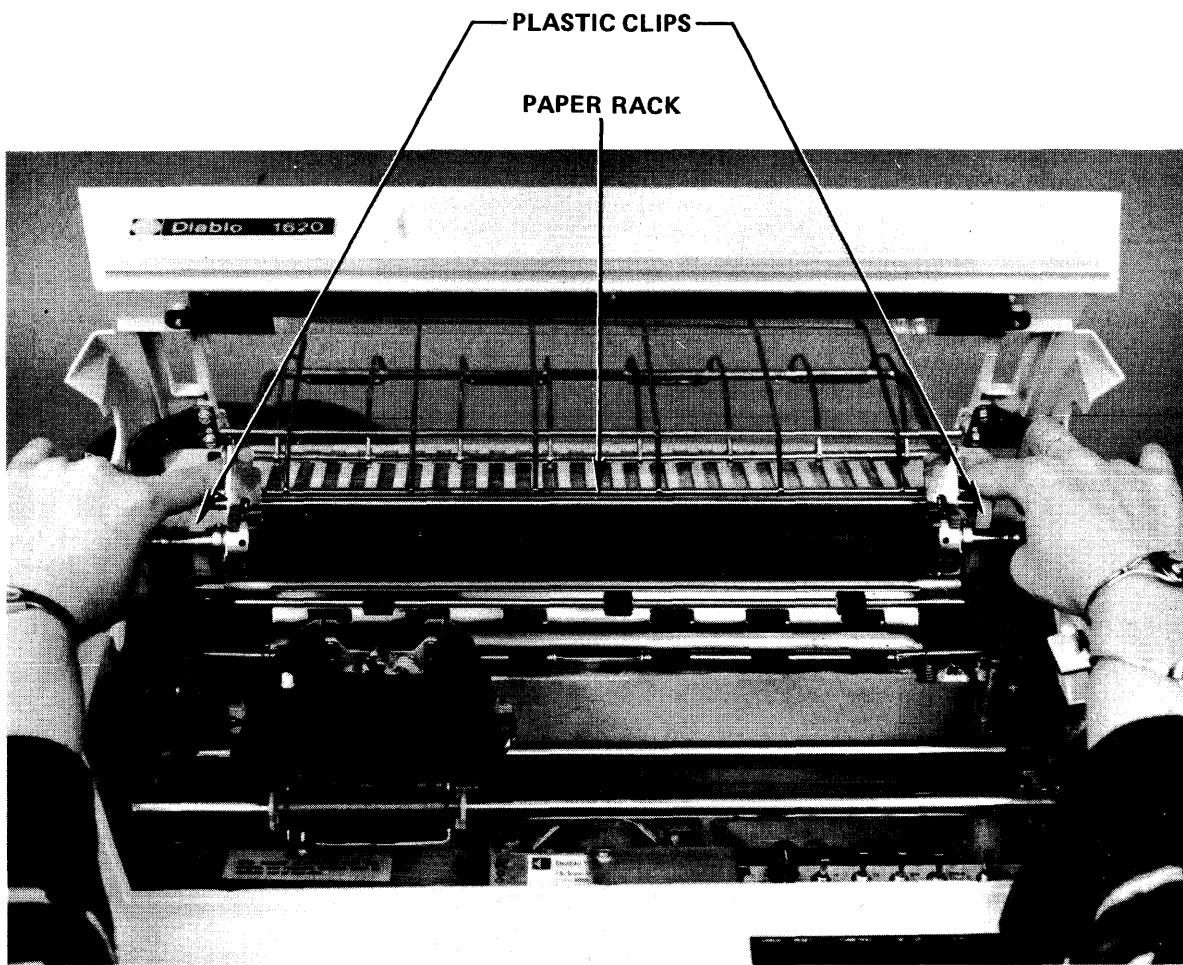

Figure 2-14. Pin-Feed Platen Installation
- (1) Lift or remove the printer access cover to expose the area of the platen.
- (2) Pull the paper bail lever and paper release lever forward toward the keyboard.
- (3) Holding the pin-feed platen in both hands, with the drive gear on the right, and with the forefingers supporting the pin feed paper clamps and the paper rack, lower the platen into the printer and position it so that the white plastic clips hang down behind the platen shaft as shown in Figure 2-14.
- (4) While guiding the plastic clips into the areas behind the platen and to both sides of the printer top cover, lower the platen so that its grooved collars rest on the platen latches.